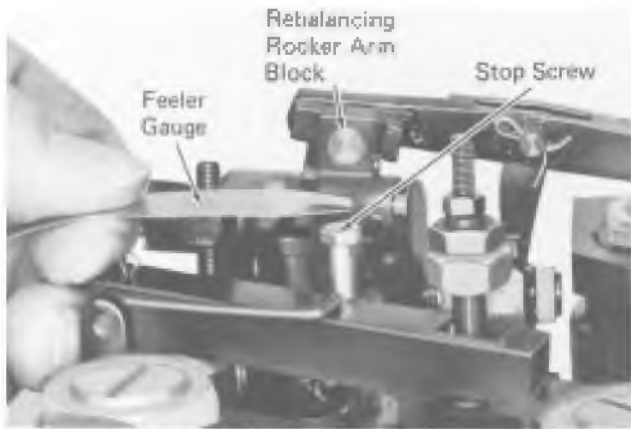

Fig. 12-11 - Rebalancing Stop Screw Adjustment
The rebalancer rocker arm, Fig. 12-11, adjusts the load to the air available for combustion. The setting of the rebalancer rocker arm stop screw determines the balanced injector rack position at the minimum air box pressure required for full load. At air box pressures below that required for full load, the rebalancer rocker arm positions the pilot valve to limit the load in proportion to the available air pressure.
1. Loosen the locknut and screw down the rebalancer rocker arm stop screw, Fig. 12-11, to ensure no interference during loading of the governor on the test stand.
2. Operate governor at injector rack length, engine speed, and pressure as shown in Table B. 3. Using a 0.001"-0.002" feeler gauge under the rebalancer rocker arm block, Fig. 12-11, run the